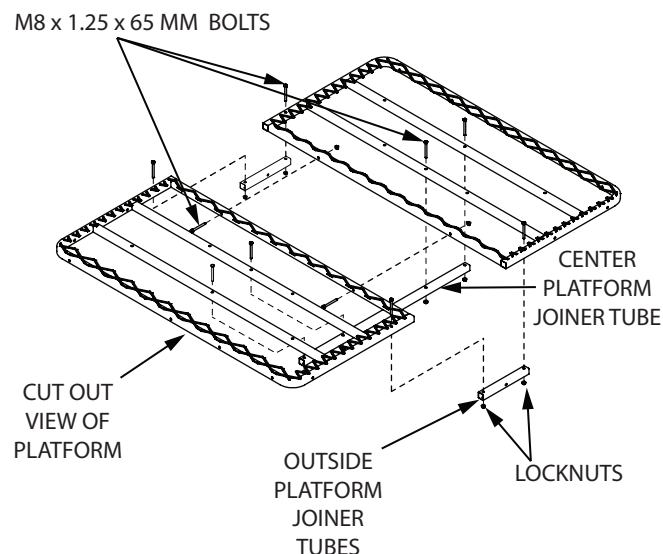

FIGURE 1
1. Attach the (2) platforms (TWR15) together using (2) provided M8 x 1.25 x 65 mm bolts and locknuts. **SEE FIGURE 1. DO NOT tighten all nut & bolt assemblies completely!**
2. Attach the center platform joiner tube (TWR32) to the bottom of assembled platforms using (4) provided M8 x 1.25 x 65 mm bolts and locknuts. **SEE FIGURE 1.**
3. Attach (2) outside platform joiner tubes (TWR31) to the bottom of assembled platforms using (4) provided M8 x 1.25 x 65 mm bolts and locknuts. **SEE FIGURE 1.**